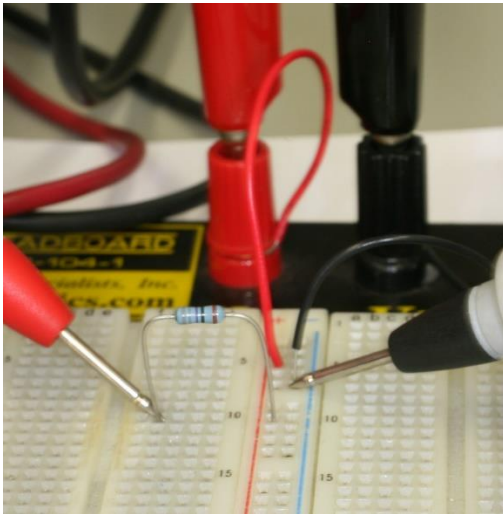

Figure 10a Correct
- Figure 10a shows the resistor connected to the supply rail **through** the DMM leads correctly so the current must flow *through* the resistor then the DMM to GND. It is hard to tell because the depth of field is poor but the black test lead is touching the black wire which comes from the power supply common. The meter leads are finishing the connection of the resistor to GND as though they represent a piece of wire.